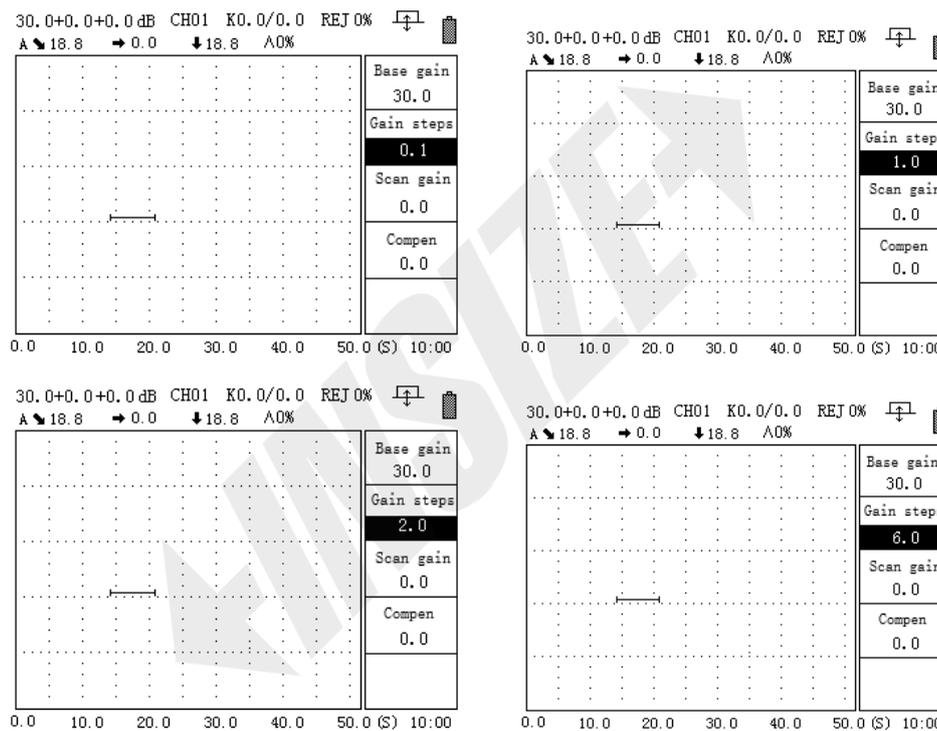

Figure2-8
0.1dB means that the base gain dB value is currently adjusted in 0.1dB steps, 1.0dB means that the base gain dB value is currently adjusted in 1.0dB steps, similarly, 2.0dB means that the base gain dB value is currently adjusted in 2.0dB steps, 6.0dB means that the base gain dB value is currently adjusted in 6.0dB steps, 12.0dB means that the base gain dB value is currently adjusted in 12.0dB steps. dB step value to adjust the basic gain dB value. As shown in Figure 2-8